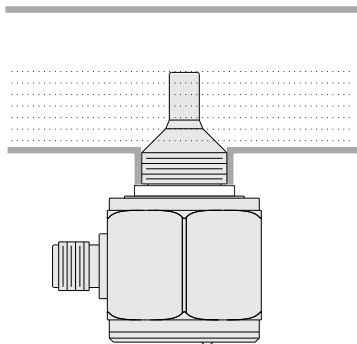

Fig. 3
4. For not-completely-filled pipes, install from the bottom. The liquid level needs to be higher than the probe height. (Fig. 3)